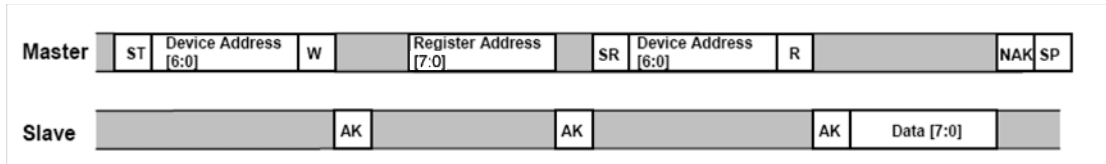

Figure 7. Single Byte Read - The Master is reading one address from the MMA7455L
The MMA7455L has a 10-bit ADC that can sample, convert and return sensor data on request. The transmission of an 8-bit command begins on the falling edge of SCL. After the eight clock cycles are used to send the command, note that the data returned is sent with the MSB first once the data is received. Figure 7 shows the timing diagram for the accelerometer 8-bit I²C read operation. The Master (or MCU) transmits a start condition (ST) to the MMA7455L, slave address (\$1D), with the R/W bit set to "0" for a write, and the MMA7455L sends an acknowledgement. Then the Master (or MCU) transmits the 8-bit address of the register to read and the MMA7455L sends an acknowledgement. The Master (or MCU) transmits a repeated start condition (SR) and then addresses the MMA7455L (\$1D) with the R/W bit set to "1" for a read from the previously selected register. The Slave then acknowledges and transmits the data from the requested register. The Master does not acknowledge (NAK) it received the transmitted data, but transmits a stop condition to end the data transfer.